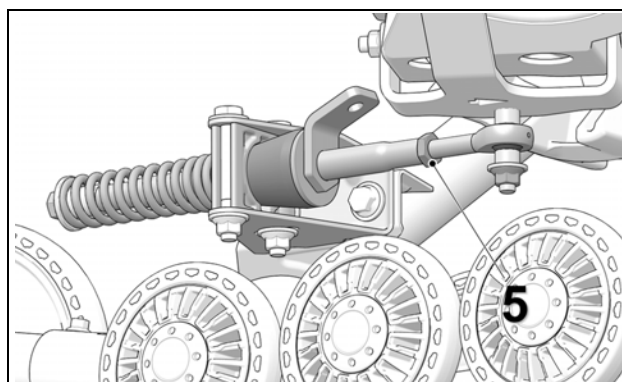

Figure 17
- Re-tighten jam nut (5) to 40 N•m [30 lb-ft] of torque when adjustment is complete. Figure 17.